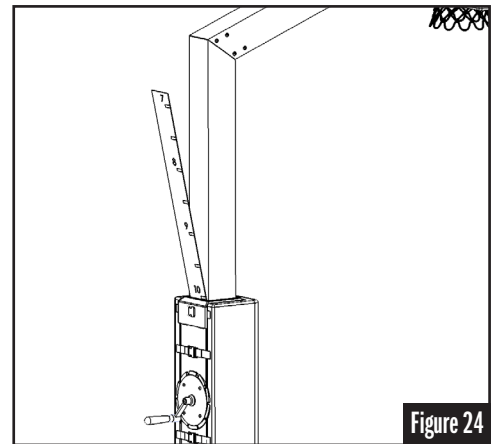

Figure 24
STEP 14: Add the Height Guide Decal (Part H) to the pole on the crank side with the 10' mark lined up with the top of the black joint cover. See Figure 24.